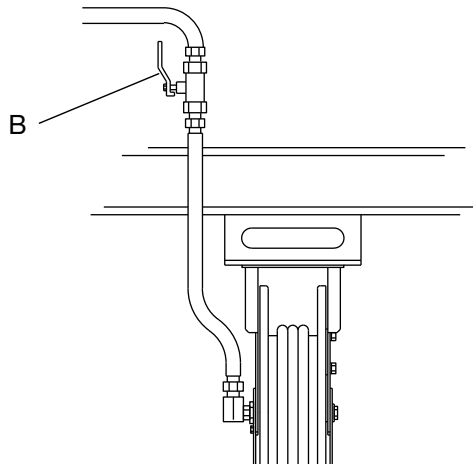

FIG. 3
1. Close the fluid shut off valve (B) at each dispense position (FIG. 3).
5. Slowly open the shut off valve (B) at the dispense position and flush out a sufficient amount of oil to ensure that the entire system is clean (FIG. 3).
6. Close the shut off valve (B) (FIG. 3).